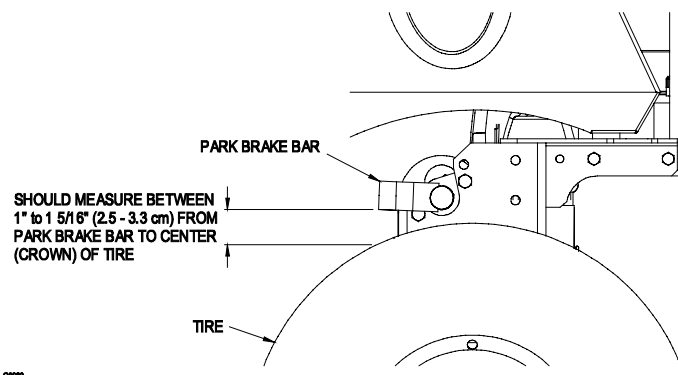

FIGURE 9
- c) Remove the hairpin in park brake linkage at the rear of the unit. Turn the linkage in the yoke until the distance from the lower front corner of the brake bar measured vertically to the crown of the tire is 1"(2.5 cm) to 1 5/16"(3.3 cm) with the park brake disengaged. Re-install the hairpin. See Figure 9.